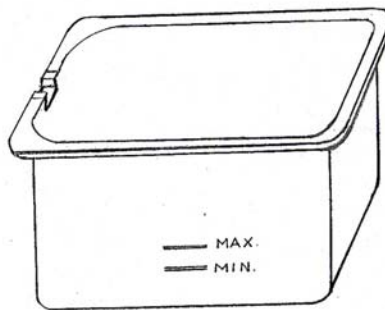

Fig. 2
- The oil level must always be maintained between the minimum 3.75 liter and the maximum 4.5 liter levels marked inside the oil container (#3). Check the oil level before each use. For best results, keep the oil close to the maximum level 4.5 liter. Fig. 2